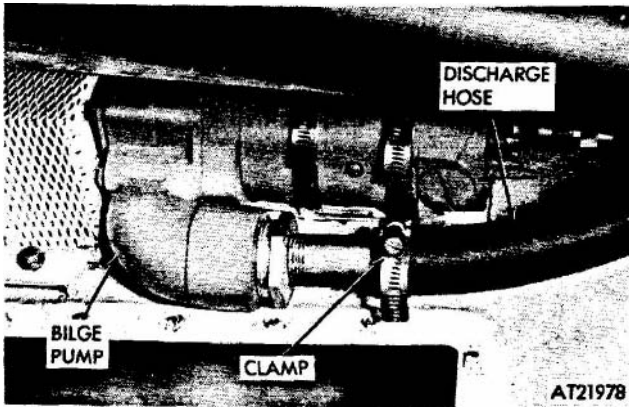

Figure 2-326. Bilge pump discharge hose (et pump), removal and installation.
- (1) Open and secure engine cover.
- (2) Remove hull bottom access panel (refer to para 2-208).
- (3) Loosen clamp securing hose to bilge pump. Remove hose from pump (fig 2-326).
- (1) Position two clamps on hose one at each end and connect hose to hull insert and bilge pump. Tighten clamps (fig 2-326).
- (2) Secure hose to hull with clamp, screw, washer, and nut.
- (3) Install hull bottom access panel (refer to para 2-208).
- (4) Close and secure engine cover.